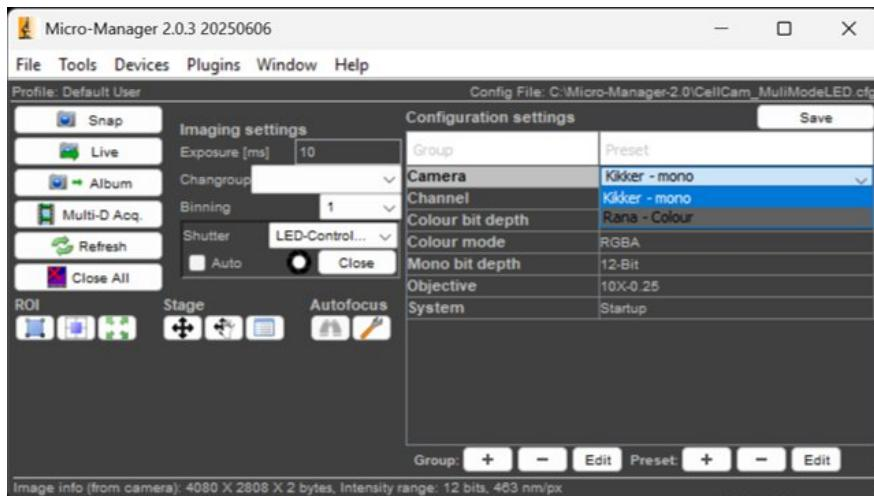

Figure 21: Micro-Manager control window after successful startup.
8. The Micro-Manager control window will open (see Figure 21).